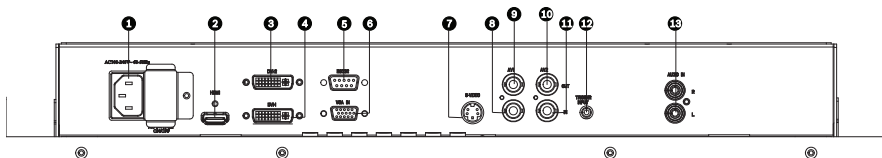

Figure 3.5 UML-422-90 Bottom View (I/O Panel)
There are two (2) BNC connectors located on the rear side panel of the monitor for composite video inputs and two (2) BNC connectors for composite video outputs (see *Figure 3.2* and *Figure 3.5*).